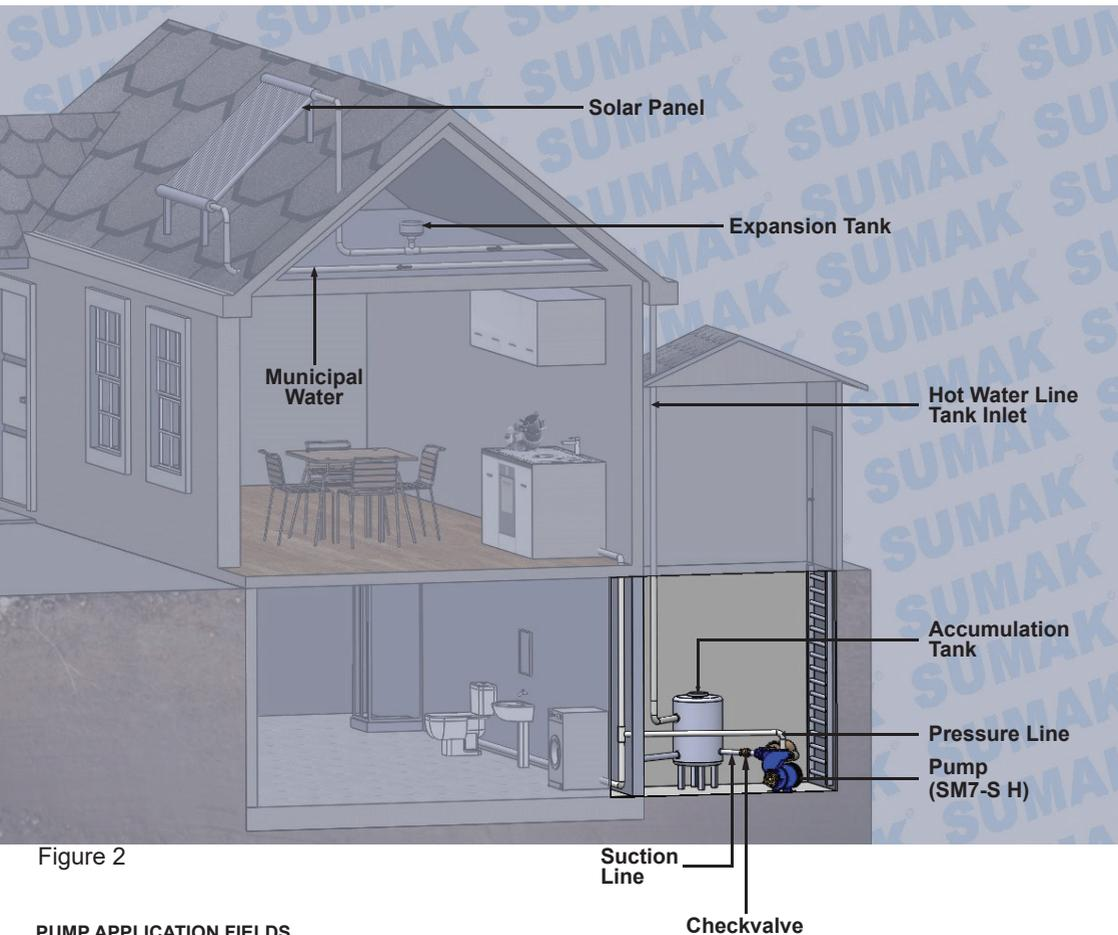

Figure 2
- 24 -Please assembly your pump as Page 10 Figure 1 and Page 14 Figure 2.